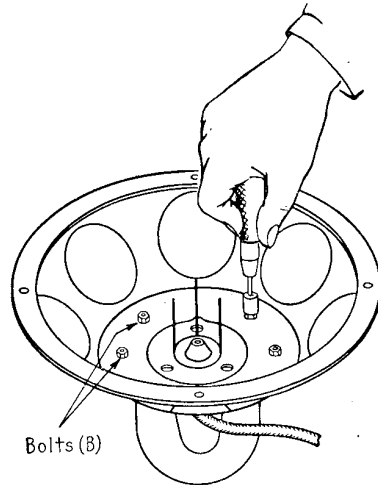

Fig. 9-12.—Centering the center pole piece with drill rod.
6. The next step centers the center pole piece, so that the field space in which the voice coil floats is uniform. Place three or four pieces of drill rod of the proper size to fit exactly in the field space, as shown in Fig. 9-12.